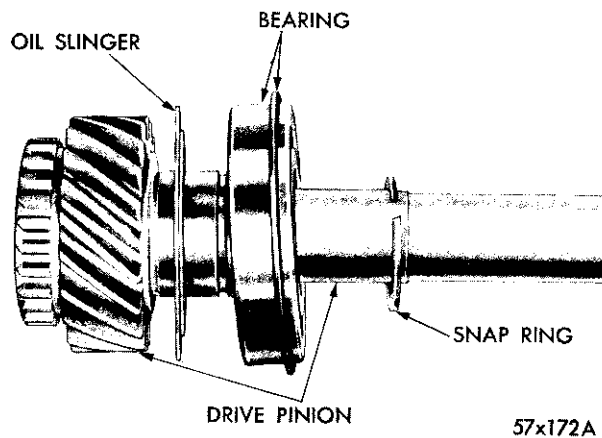

Fig. 6—Drive Pinion Assembly
- (1) Place the oil slinger on the main drive pinion with the offset outer portion next to the drive pinion teeth (Fig. 6).
- (2) Place the main drive pinion bearing on the pinion shaft with the outer snap ring away from the pinion gear.
- (3) Press the bearing into position so it is seated firmly against the oil slinger and pinion gear.
- (4) Install the bearing retaining snap ring on the pinion shaft, using snap ring pliers Tool C-3301. Be sure the snap ring is seated in its groove.
- (5) Coat the 15 pilot bearing rollers with heavy grease and install them in the cavity at the rear of the main drive pinion.
- (6) Install the snap ring.